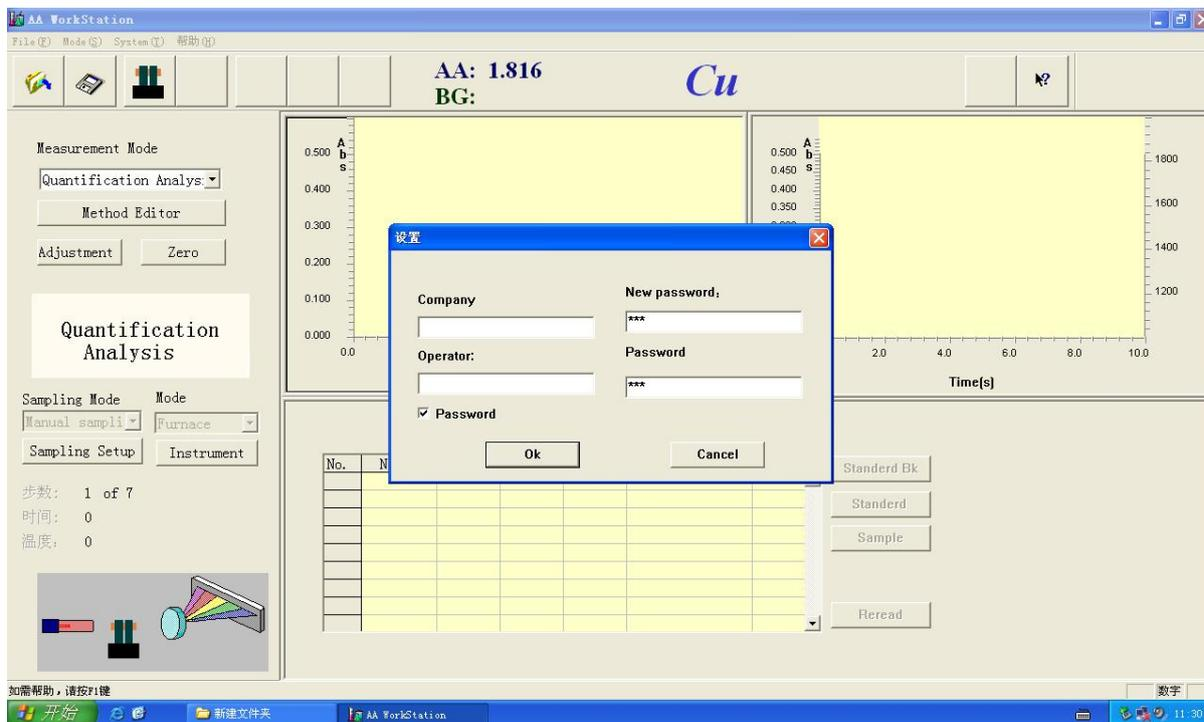

Figure 4-9
6. Select the " password" dialog box, enter a password, and enter again to confirm. Figure 4-9.